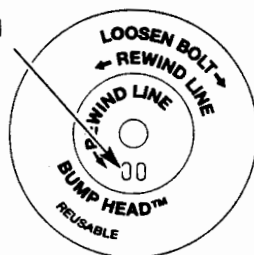

Fig. 30
**NOTE:** SplitLine™ can only be used with the inner reel with the slotted holes. Single line can be used on either type of inner reel. Use Figure 30 to identify the inner reel you have.